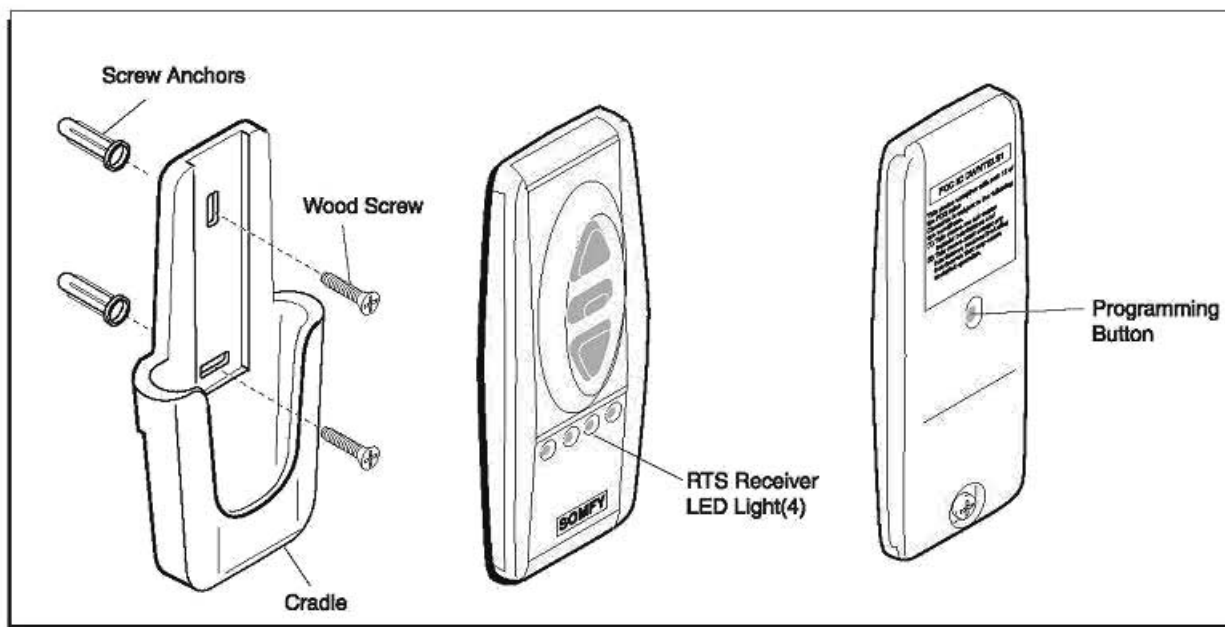

FIGURE 34
- a. Place remote control mounting bracket/cradle into position and mount using screws and anchors provided (Fig. 34).
1. Press the Programming Button (PROG) of the receiver located in control box (see Fig. 34, lower right corner) until LED lights. This indicates that for one (1) minute the receiver is ready to receive the address of the transmitter. After this time, the LED goes out.
2. Press the Programming Button on the back of the transmitter (Fig. 34) with a ballpoint pen until the receiver's LED blinks. The address of the transmitter is instantly memorized and the receiver automatically ends the programming mode.